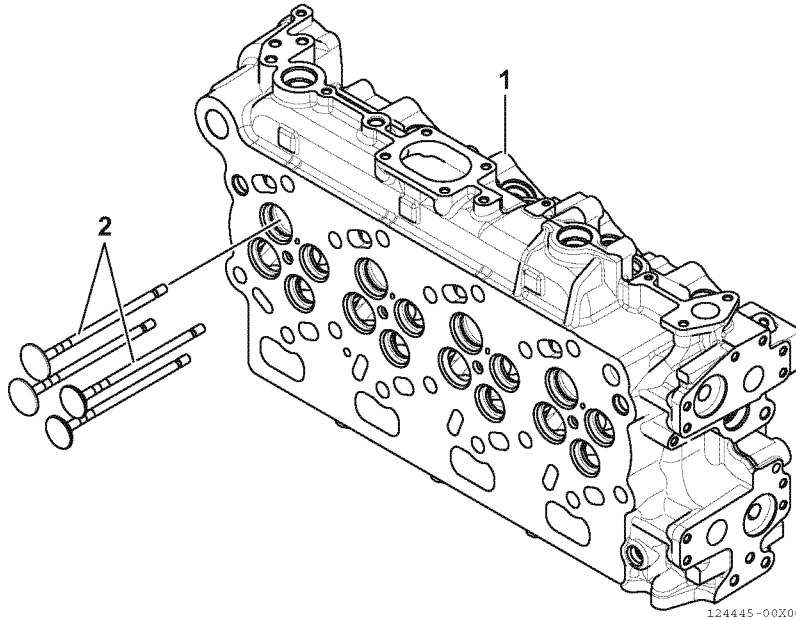

Fig.14-35
3. Place a single cylinder head (1, Fig.14-35) with the exhaust port side facing up.
4. Attach the removed intake/exhaust valve (2, Fig.14-35) to the original position on the combustion side of the cylinder head.